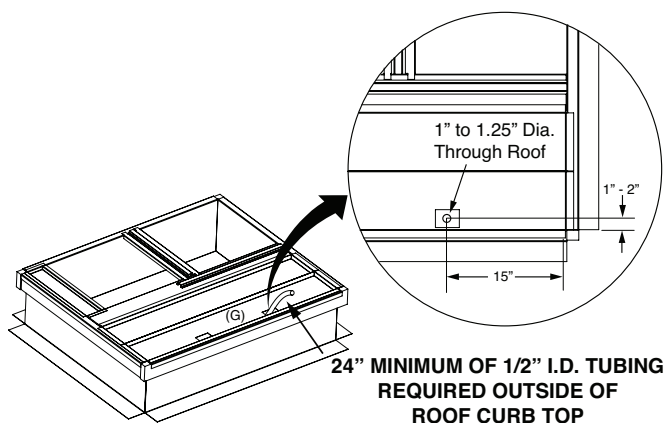

Figure 23. Roof Curb for 2 - 5 Ton Units
Vertical pit should be approximately 12"-14" in diameter (or larger) for installation of the rock base and vertical piping system to allow for proper drainage with a depth of 4"-6" below the regional frost line if possible. See Figure 23 \(page 46\).
8. Glue or use two 1/2" long screws (field supplied) to secure the 2" PVC Tee to the unit horizontal vent pipe. See Joint A in Figure 23. **NOTE:** Fastening the Tee to the horizontal vent pipe with 1/2" screws will make disassembly easier for future cleaning or inspection of the drain / vent system.
5. Cement or mechanically fasten the assembly (with 1/2" long screws) into the top of the tee. Verify the outlet is perpendicular to the unit. See Joint B in Figure 23 and Figure 24.
- Nortek Condensate Drain & Vent Kit # 922485 is set up for installing the HX condensate drain line straight down through the roof. It is recommended to drill a 1.00"-1.25" diameter hole through the roof below the rectangular opening located in outer close off curb panel (G), approximately 15" in from the short side of curb and 1"-2" in from the long side of curb. See Figure 23.
- If drilling a hole is not an option, routing the condensate drain hose over to the duct passage opening with enough slope is acceptable as long as drain line is secured to curb and duct, ensuring no kinks or traps can form between the collector box drain or interior of the building. Leave a minimum of 24" drain line extending out the top of roof curb front close off panel (G) for passage through unit bottom and connection to unit drain when unit is being set. See Figure 23. Seal roof penetration as required.